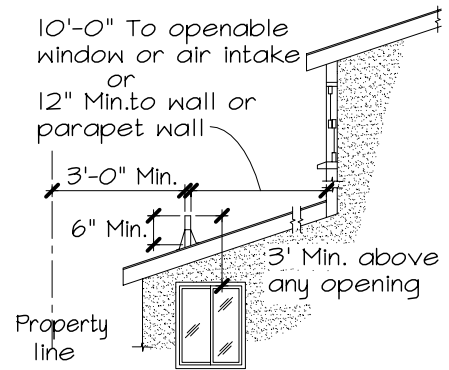

Figure V-1 VENT TERMINATION
For notes on vent termination see page 2 and Figure V-1
2. Vents pipes shall extend through and terminate not less than 6" above the roof nor less than 1 ft. from any vertical surface. Also, each vent shall terminate not less than 10 ft. from, or at least 3 ft. above any openable window, door, opening, air intake, or vent shaft, nor less than 3 feet from any property line, except public right of way. (Section 906 U.P.C.) See Figure V-1 to for a general illustration of these requirements.